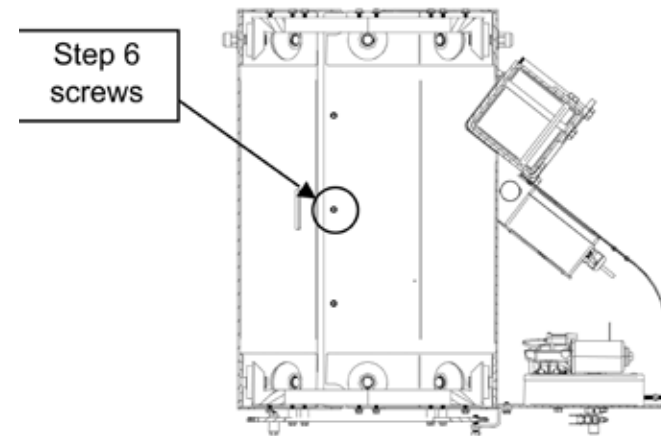

Figure 5
- Lift the assembly onto the tower (ensure the assembly is oriented with the adjustable rollers toward the top of the tower). Connect the shell assemblies by inserting and tightening the remaining 5/16"-18 screws, lock washers and flat washers. Reinstall the two center screws with flat and lock washers. See Figure 5.